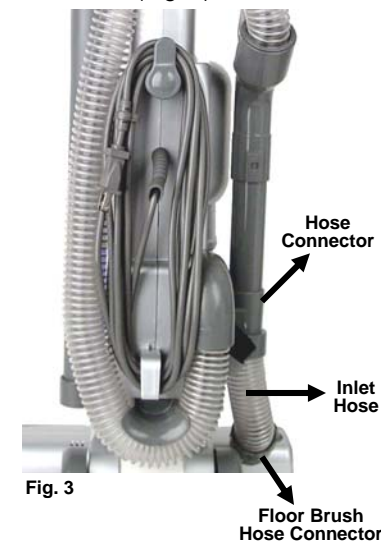

Fig. 3
- Hold the end of the removable hose handle and insert it into the hose connector. (Fig. 3)
- Insert the inlet hose into the floor brush hose connector that is on the floor brush. (Fig. 3)